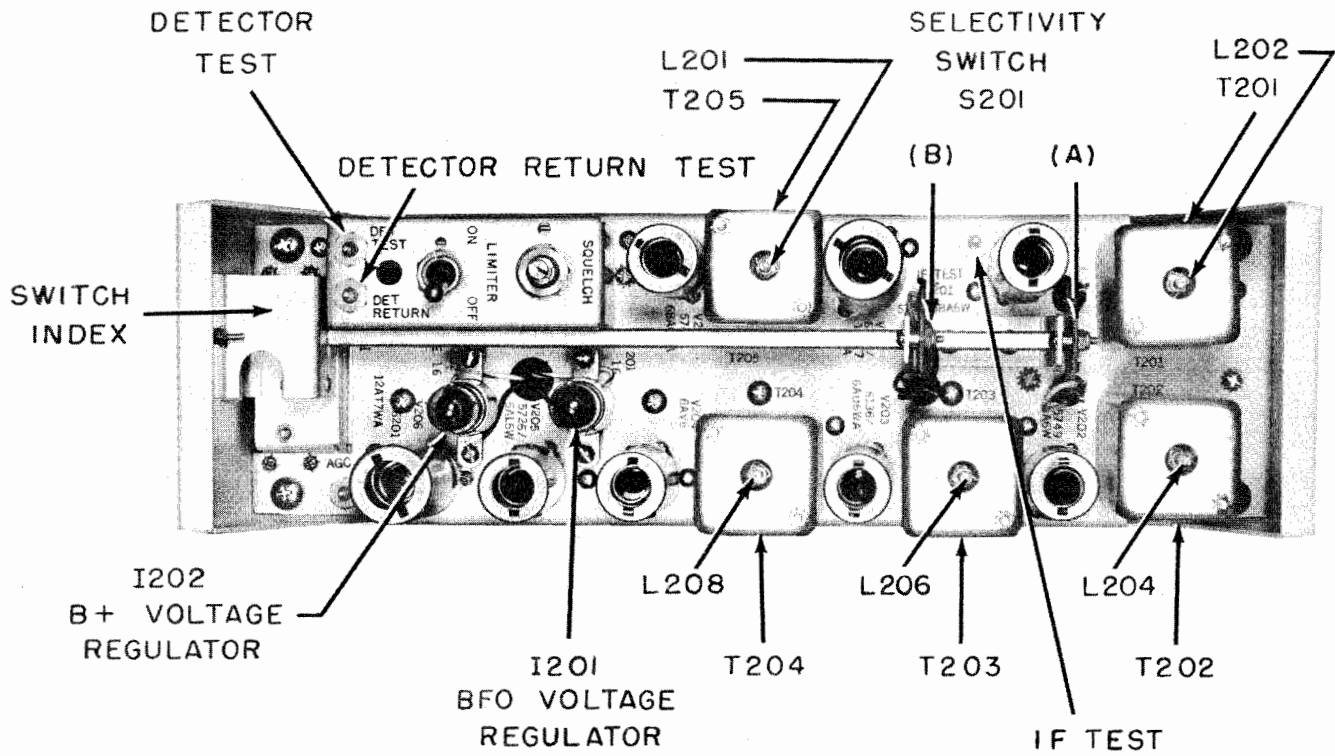
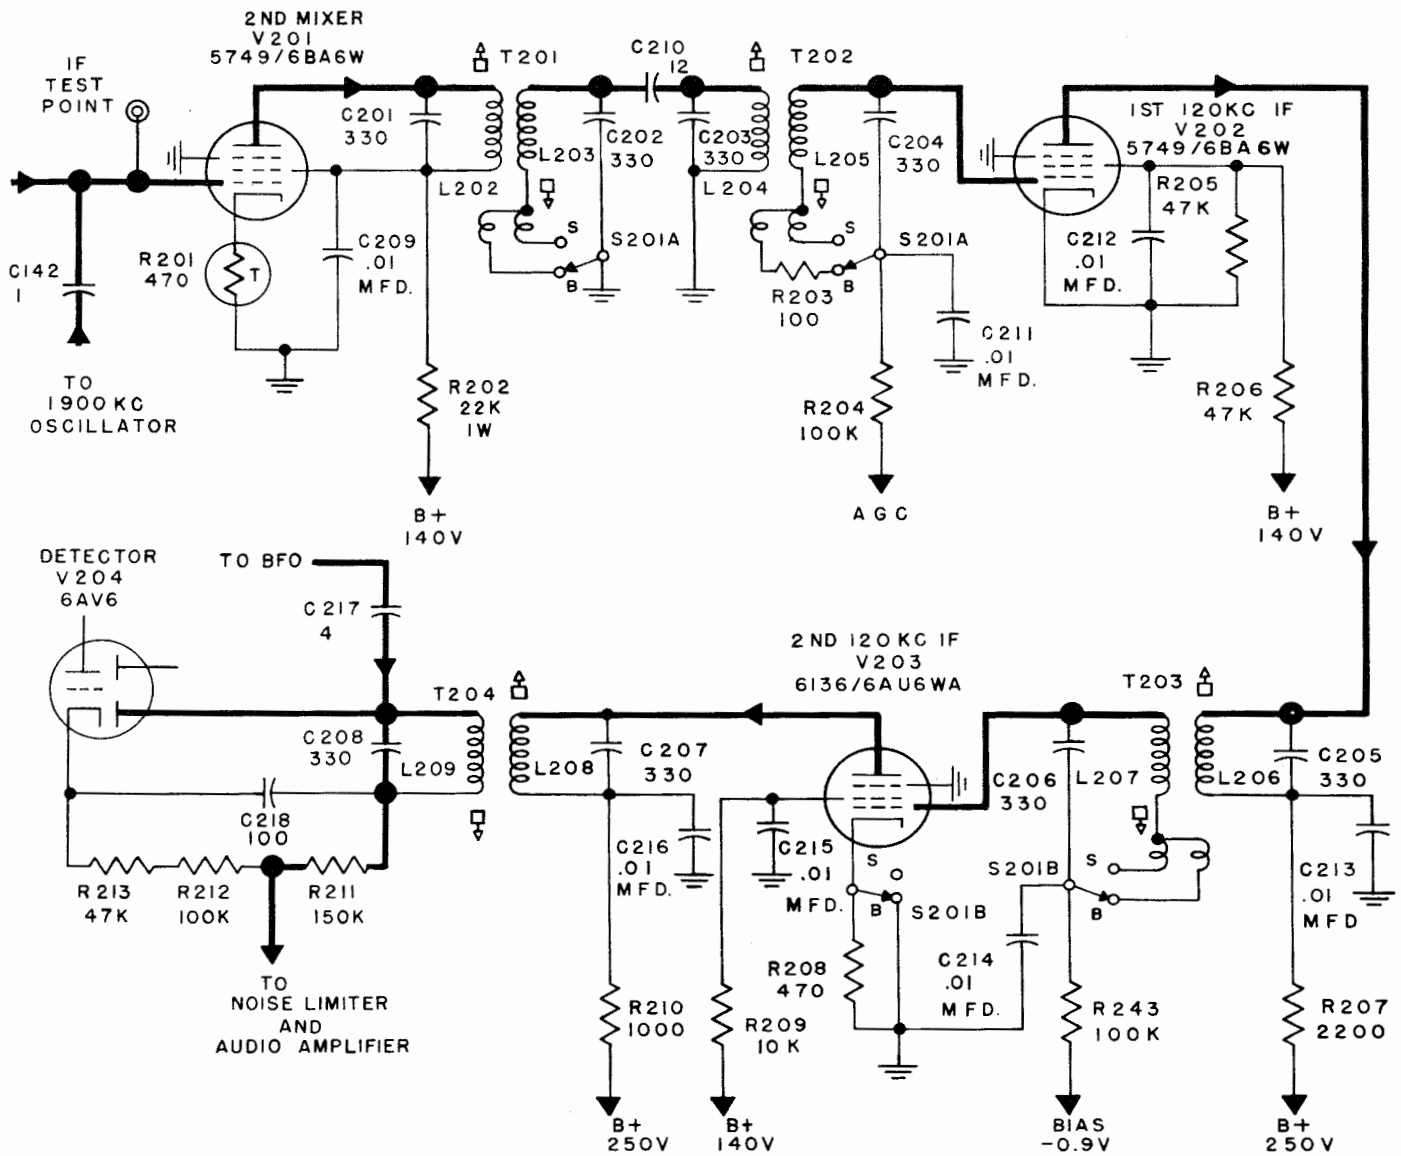

Figure 2-9. Top View of the IF Chassis
Figure 2-11. Simplified Schematic—2nd Mixer and 120 Kc IF Amplifier
(1) SECOND MIXER/120 Kc IF AMPLIFIER.—As shown in figure 2-11 a type 5749/6BA6W tube is used as the second mixer (V201). The 2020 Kc first IF and the 1900 Kc second oscillator frequencies are present in the grid circuit and combine in this tube to produce the 120 Kc IF frequency which is selected by the plate circuit. A test point is provided on the top of the chassis (see figures 2-9) to permit injection of a 120 Kc signal on the control grid of this tube for the alignment of the 120 Kc IF stages. Proper operating